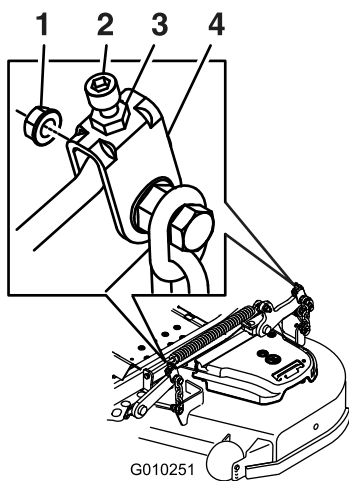
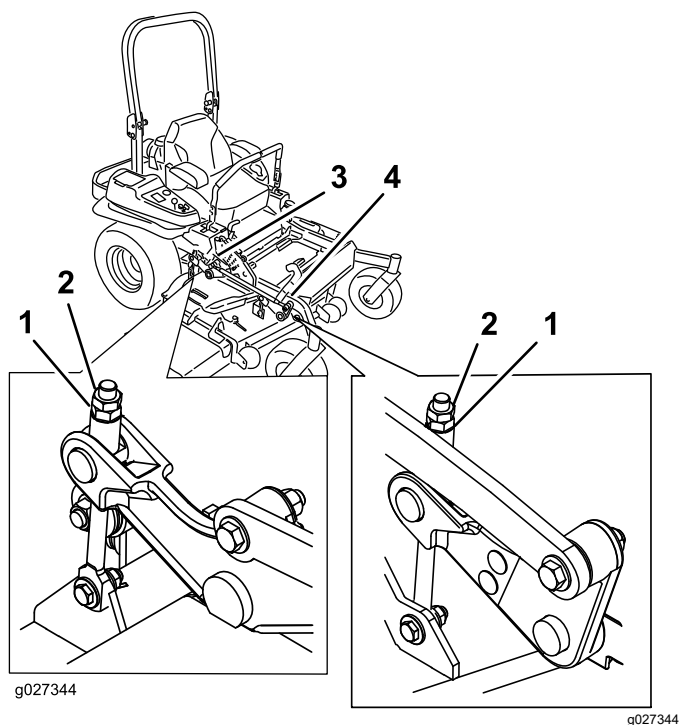

Figure 116
Figure 117
10. Fine-tune the adjustment nut on the front deck-lift assembly by turning it (Figure 116 or Figure 117).
16. Fine tune the screw adjuster by turning it to get 8.3 mm (3-1/4 inches) height (Figure 117).